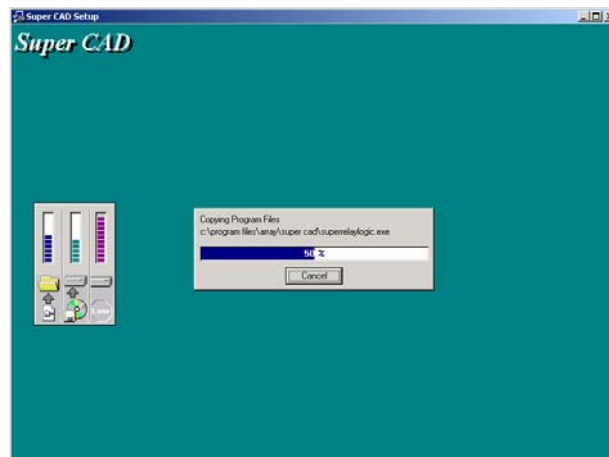

Fig 1.8 Setup window
- Click **NEXT** to enter the next step of installation and the contents of the program will be installed, as shown in Fig.1.8.